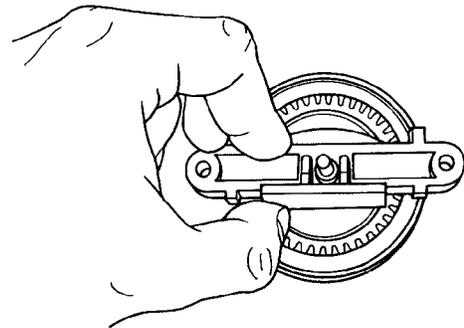

Figure 7.14
- C. Assemble the bearing bar to the distributor block with the brush shield facing the notch in the distributor block as shown in Figure 7.14.